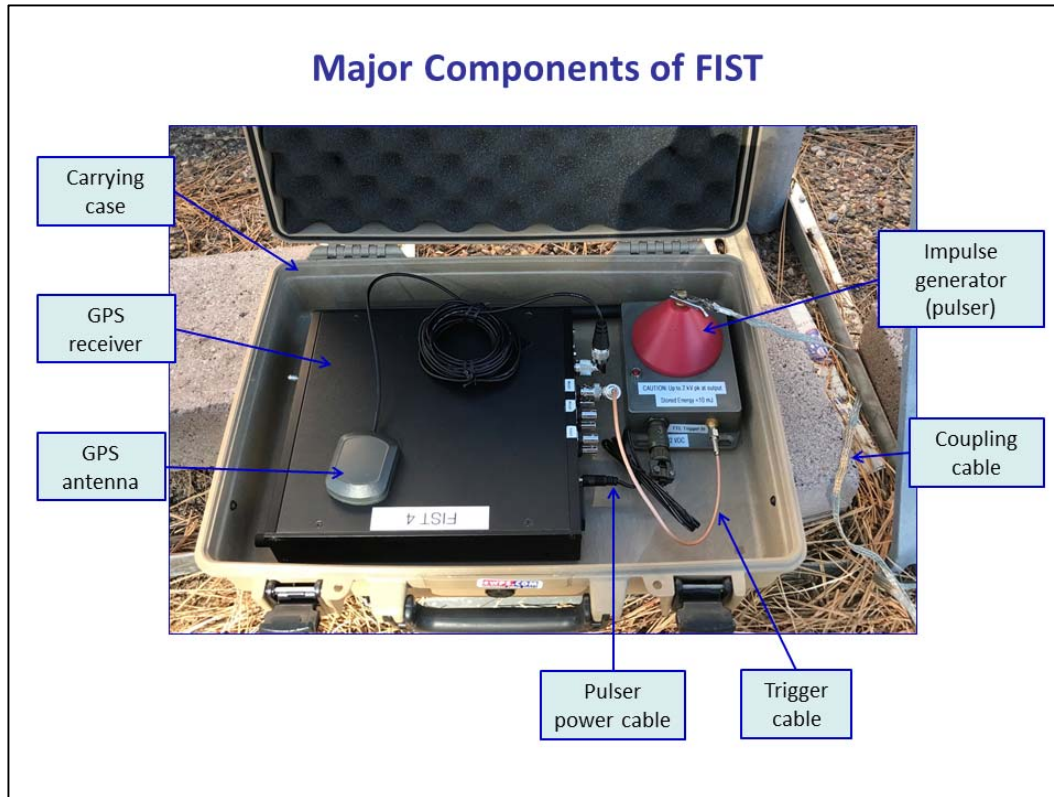

Figure 1. Major components and layout in the FIST case.
Figure 1 shows the layout of these major components in the FIST carrying case. Contact the Los Alamos FIST team for a complete parts list.
- 4.1.1. Identify a dry and preferentially elevated (from the ground) location near the DUT. Avoid moisture or condensation. Avoid tall obstructions that may block the sky view and GPS reception. Place the FIST case flat and open as shown in Figures 1 and 2.